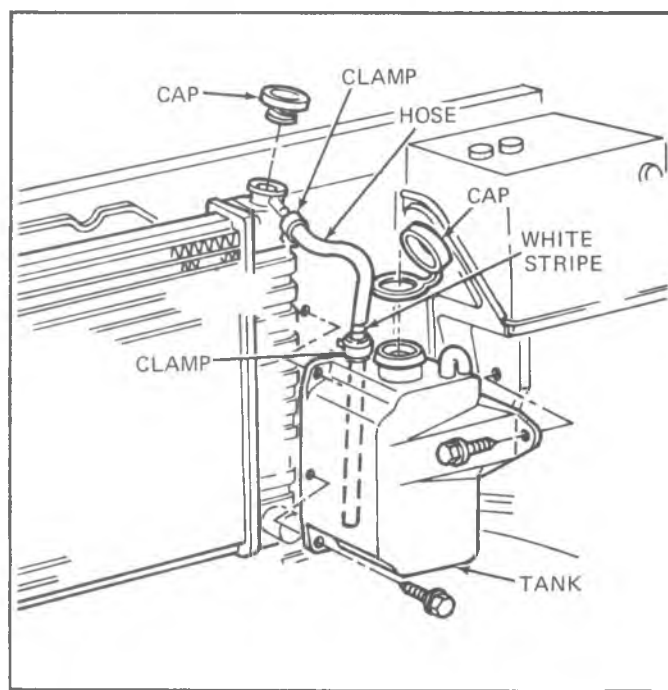

Fig. 1—Coolant Recovery Tank—CK Series
8. (C-K Models) Insert coolant recovery hose in tank as far as the first white stripe 13.5" (as shown in Fig. 1).
Removal and Installation (Fig. 1).
Refer to Fig. 1 for removal and installation of coolant recovery system on CK Series.